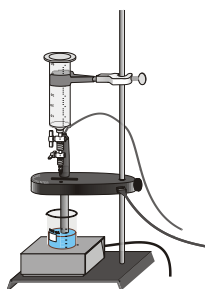

Figure 1
- b. Use a utility clamp to attach the reservoir to the ring stand (see figure 1).